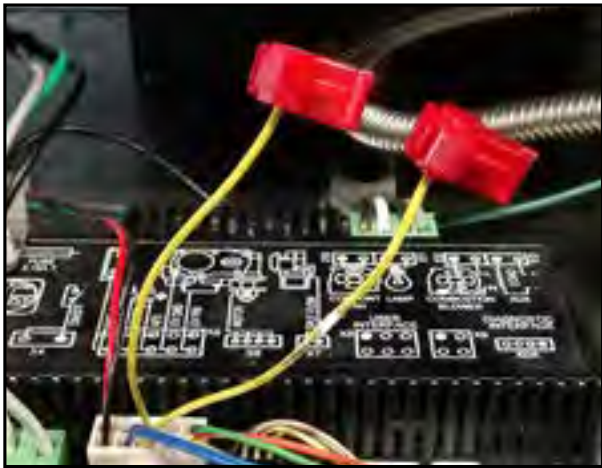

Figure 22: Pressure switch wire taps attached
d. Attach one of the supplied red wire taps to each of the cut leads as shown in Figure 22. Install the wire taps roughly 1/2" from the end of the leads. Make sure there is an audible click upon closing the wire taps.